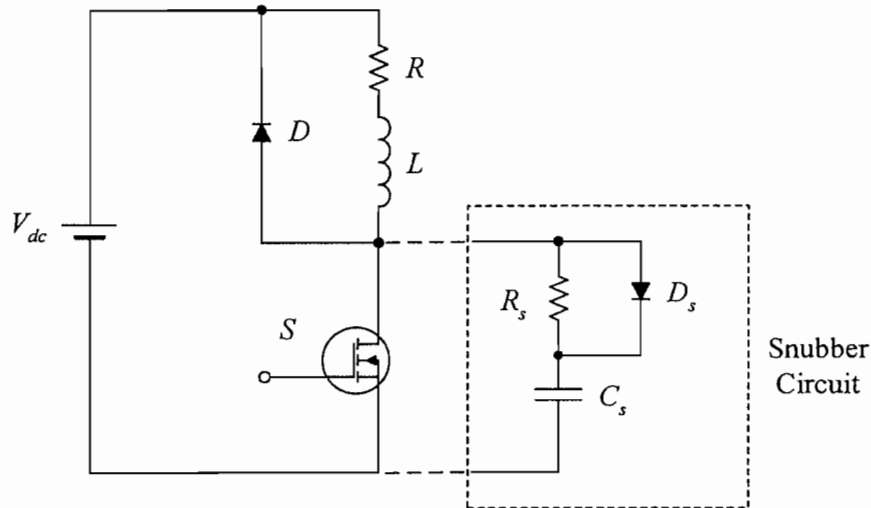

Fig. 2
(b) Fig. 2 shows a switching circuit for powering an inductive-resistive (RL) load.
(iii) Derive an expression for the turn-off switching loss with the snubber circuit shown in Fig. 2. [8 marks]